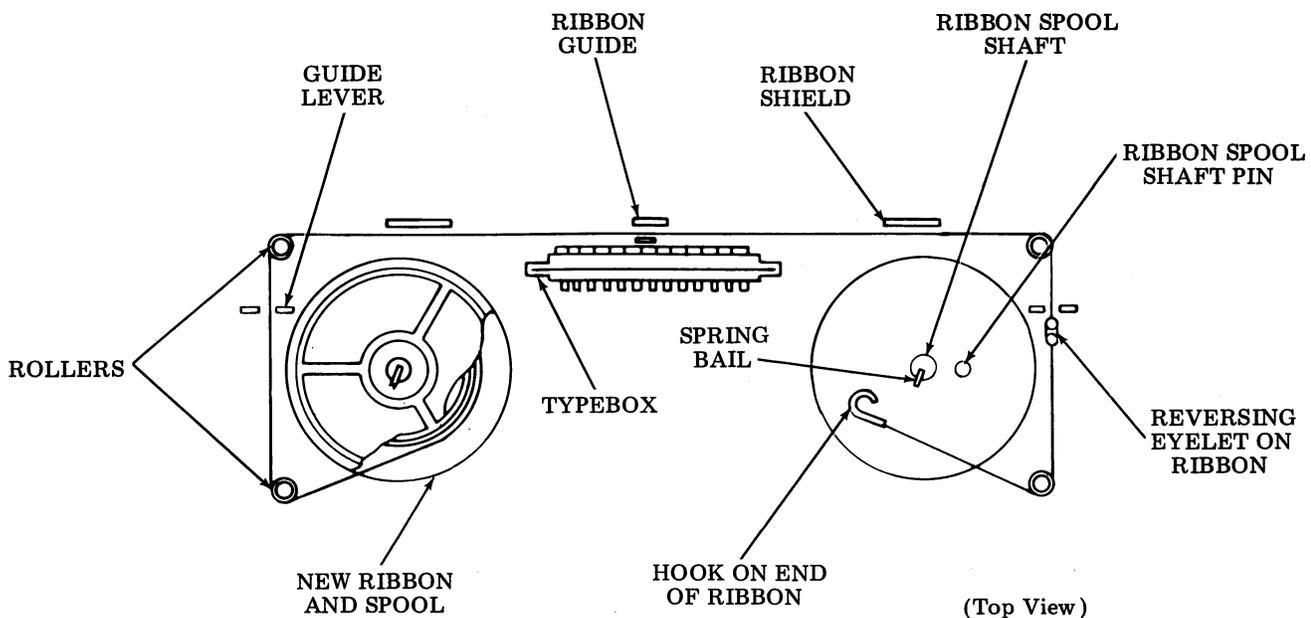

Figure 14 - Ribbon Routing
4.14 To route the new teletypewriter ribbon, straighten the spring bail on the ribbon spool shaft, and lift the spool of the shaft. Remove the packaging, and reel out enough ribbon to reach the empty spool, plus an additional three turns on the spool. Refer to Figure 14 and perform the following routing procedure: